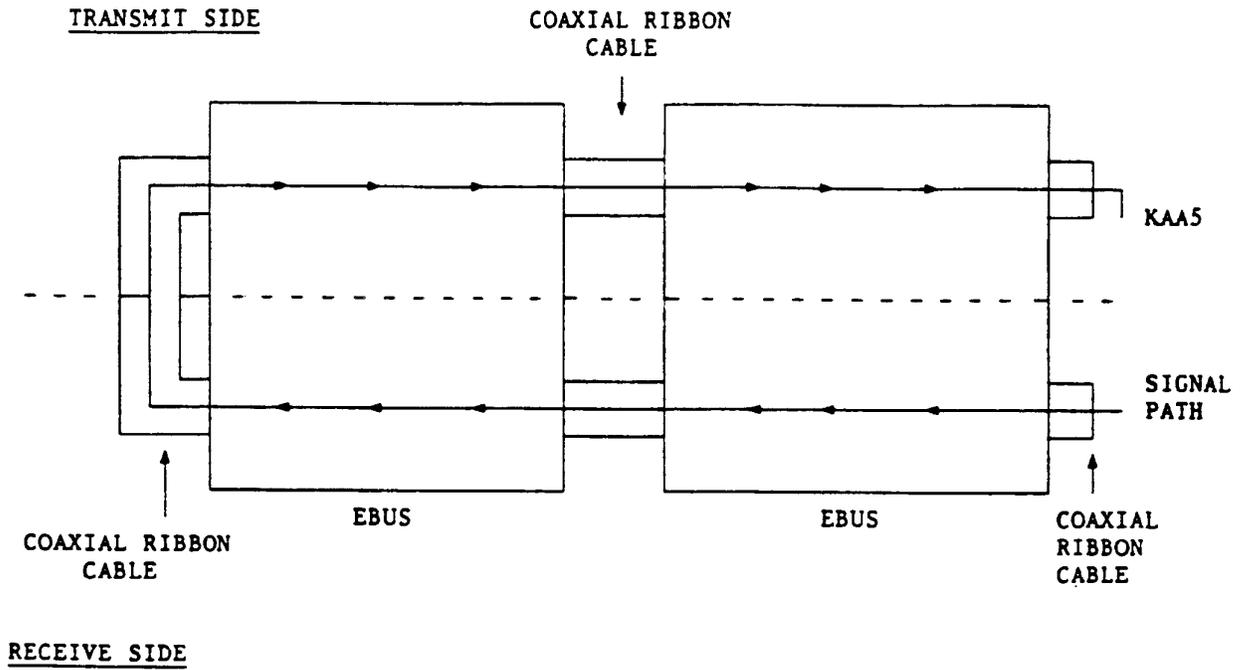

Figure 1. EBUS Block Diagram
2.02 For clarity, the EBUS is divided into two halves: receive and transmit (Figure 1). The receive portion (first half) is from the point of signal origination to the point where the bus is looped back. The transmit portion (second half) is from the point where the bus is looped back to the point where the signals are terminated.